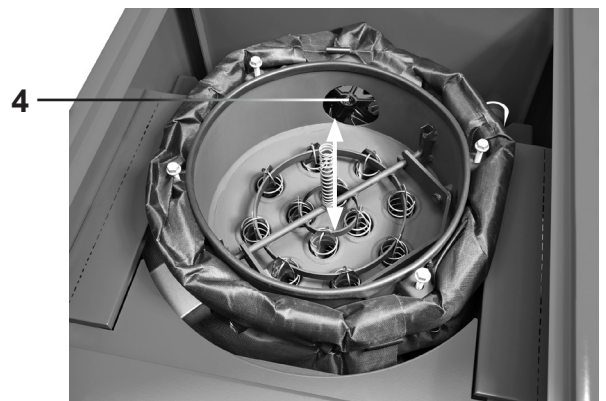

Fig. 06
2. Extend the regulator unit upwards approx. 20 cm (Fig. 06) and move it up and down firmly several times (approx. 10...20 cm)
4. Clean the impeller (4) of the induced-draught fan using a brush and vacuum cleaner; use a scraper to remove any encrusted deposits.